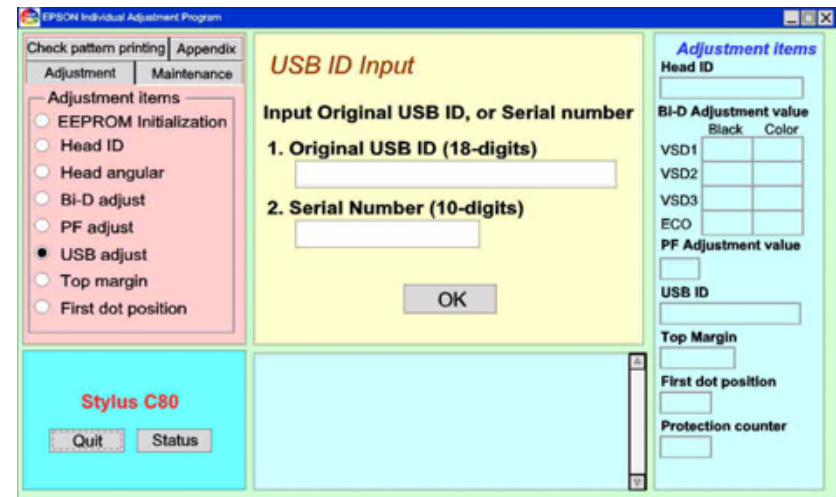

Figure 5-35. USB ID/Serial Number Input Mode
3. Select "Readout USB ID". (Figure 5-35 screen appears.)